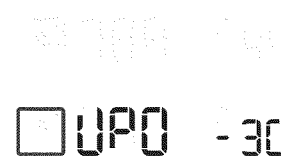

Figure 30: Oven temperature set 30° lower than default
1. Press **user pref** until **UPO** appears in the display (Figure 30).
2. To decrease the oven temperature by 30°F , press **-lo** until **-30** appears (Figure 30).